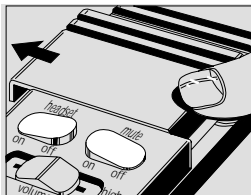

Figure 4-1. Removing the Lid.
1. Remove the lid for the battery compartment by sliding it to the left and then lifting it off. See Figure 4-1.